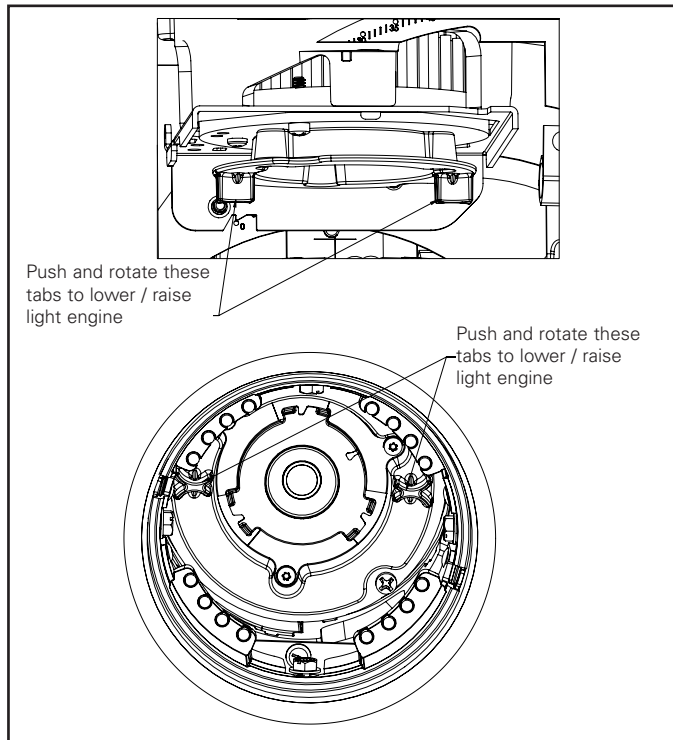

Figure 18.
4. To lower the position gently push up the light engine using LED holder tabs and then rotate it Counterclockwise direction until you feel that it is locked in position Figure 18.